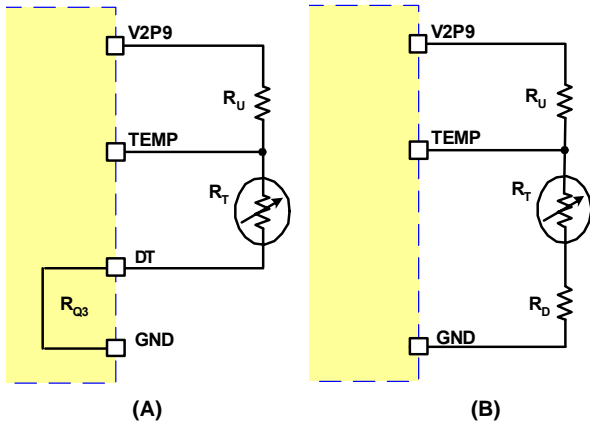

FIGURE 7. EQUIVALENT CIRCUITS FOR THE NTC DIVIDER
create a hysteresis for each comparator respectively. The DT pin is shorted to GND via the internal Q3 MOSFET when the charger is not charging, resulting in the equivalent circuit shown in Figure 7 (A). The on-resistance of Q3 is typically 50Ω and is negligible compared to the external resistors. When the charger starts to charge, Q3 is turned off to set a higher temperature range determined by the external resistor R_D. The equivalent circuit is shown in Figure 7 (B). The DT pin allows the user to set up a higher shut down ambient temperature after the charger starts up.